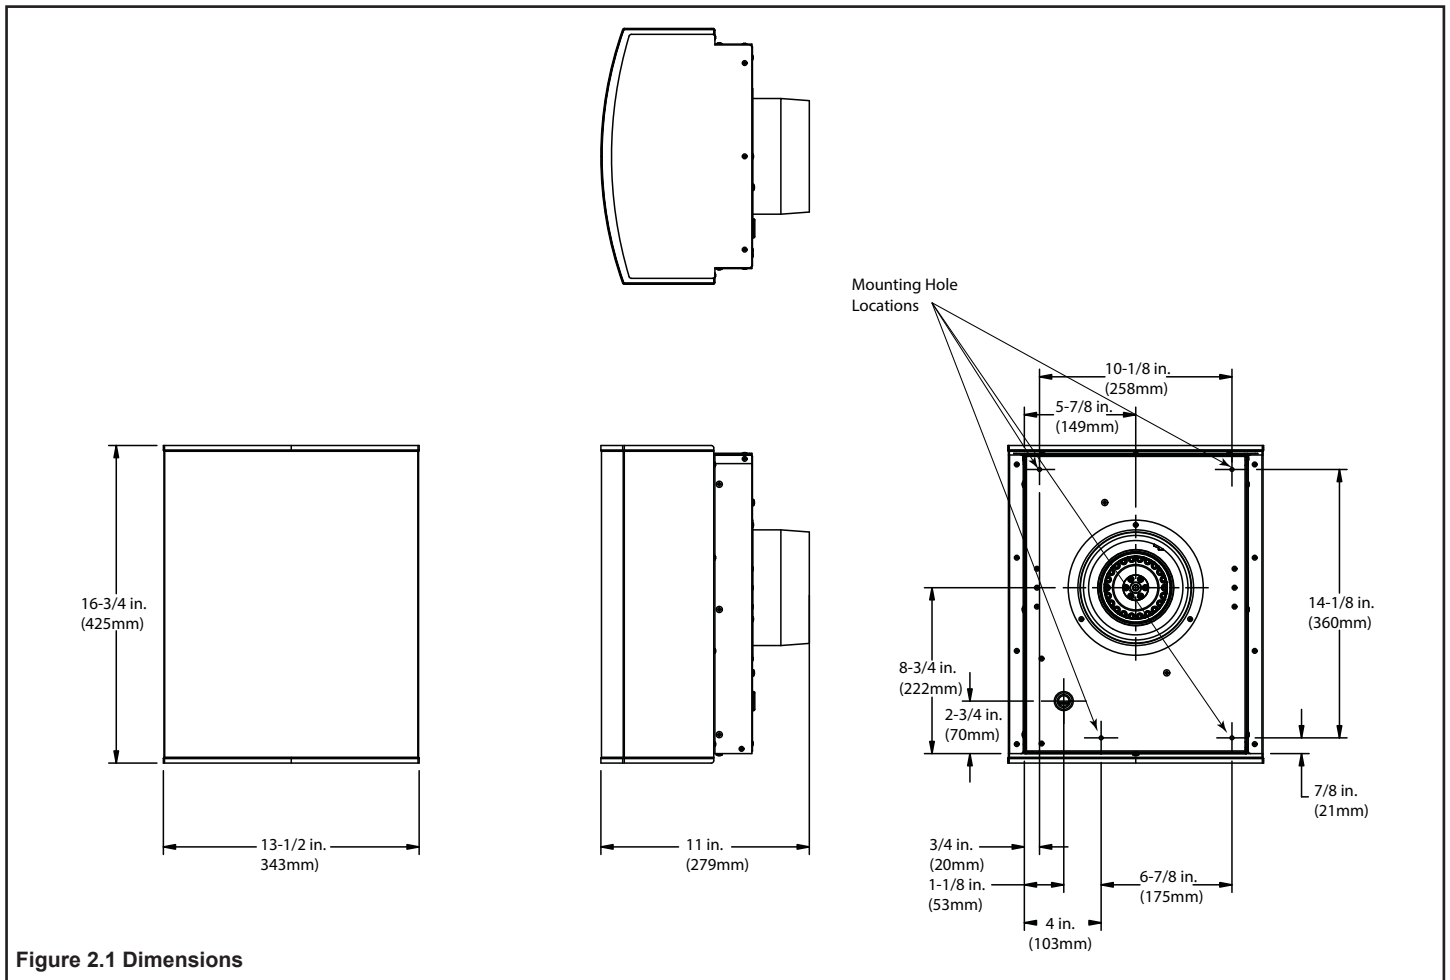

Figure 2.1 Dimensions
The dimensions are measured as shown in Figure 2.1.
4. Cut a 7" diameter hole in the outside of building where the duct for the HEAT-OUT-GAS is to be located. Refer to Figure 2.1 for duct location on HEAT-OUT-GAS.